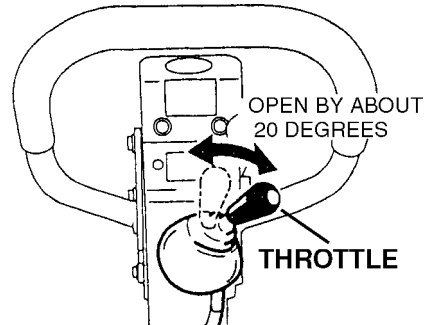

Figure 10. Throttle Lever (Start Position)
2. Move the throttle lever to the **START** position by opening it to about 20 degrees (Figure 10).